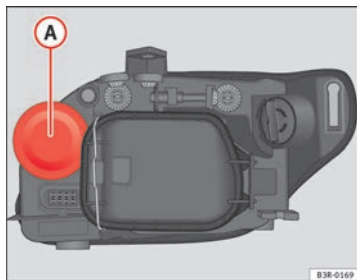

Fig. 220 Indicator bulb
- Pull the rubber cap ⇒ fig. 220 to remove it.